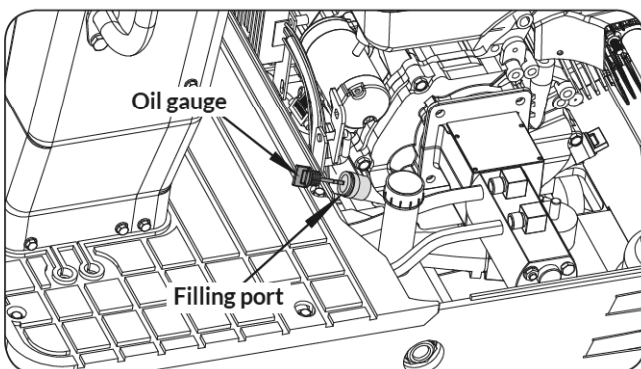

Figure 20
2. Open the engine hood and remove the oil gauge to add oil. (See Figure 20)